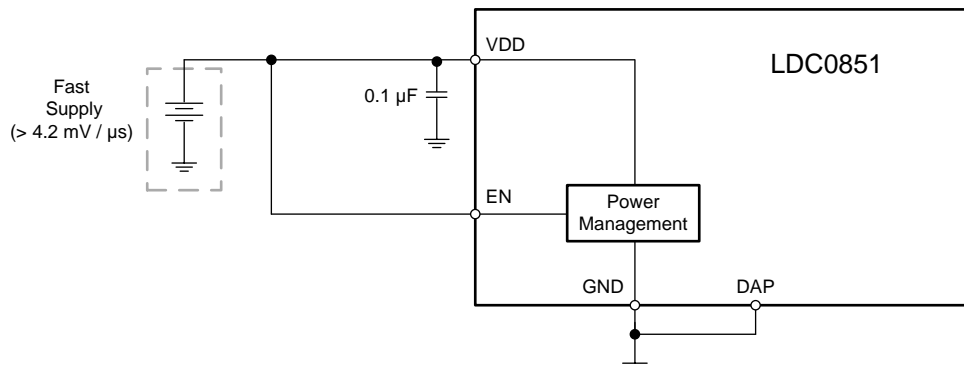

Figure 32. Supply Connections for Fast Ramp Rate
A 0.1 μF capacitor should be used to bypass VDD. If multiple bypass capacitors are used in the system, then the smallest value capacitor should be placed as close as possible to the VDD pin. A ground plane is recommended to connect both the ground and the Die Attach Pad (DAP). If the supply ramp rate must be faster than 4.2 $\text{mV}/\mu\text{s}$ the enable pin (EN) may be tied directly to VDD as shown in Figure 32.